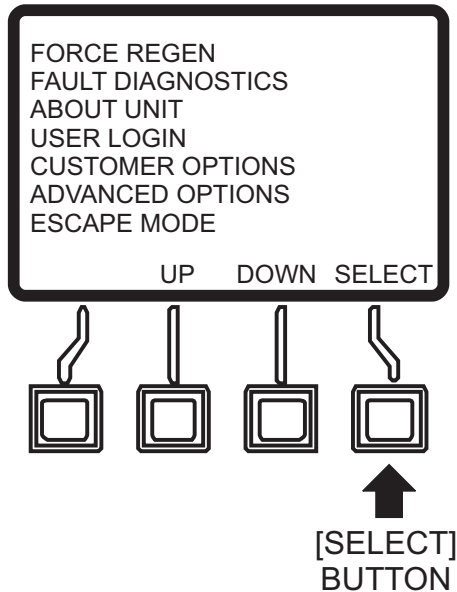

Figure 98. Escape Mode (Select Button)
- Press the **[SELECT]** button (Figure 98) to enter the "Escape Mode" menu.